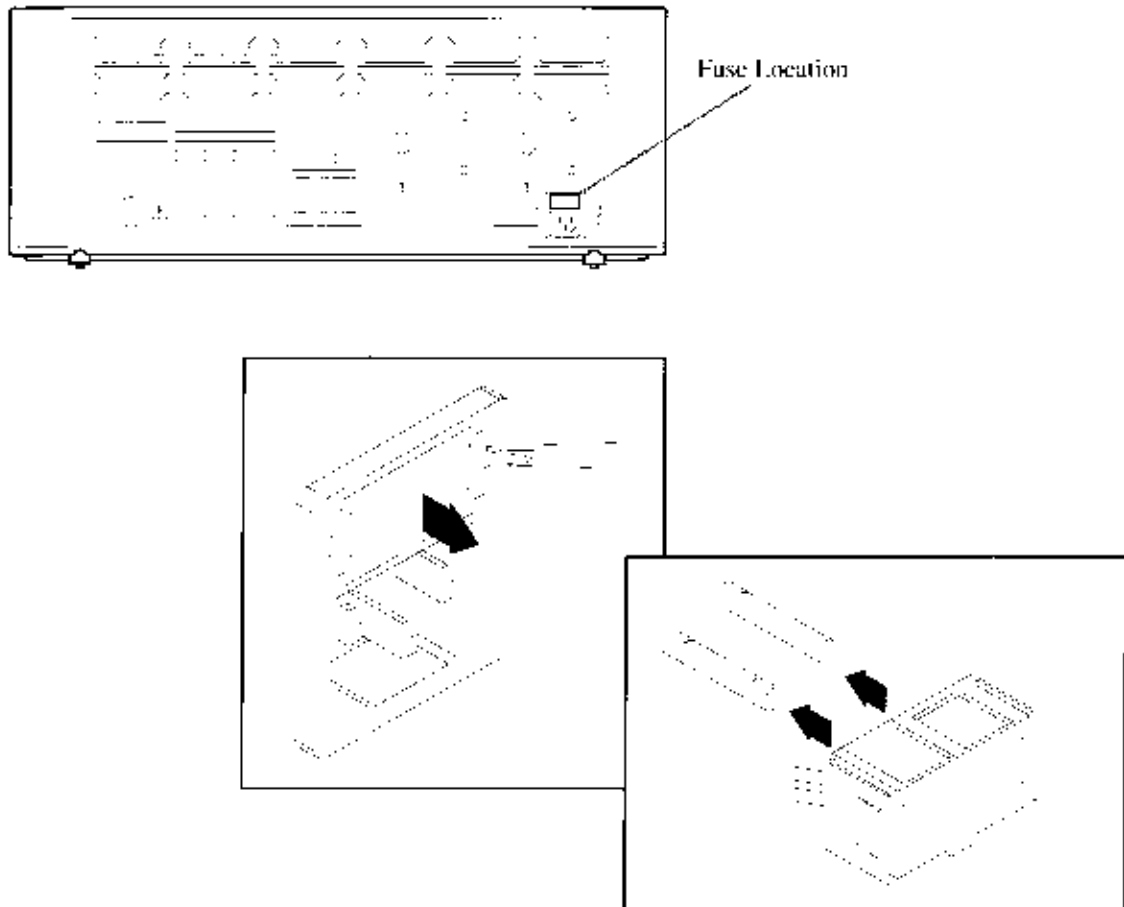

Figure 7-3. Base Fuse Replacement .
- C. To change fuse in base unit (figure 7-3):